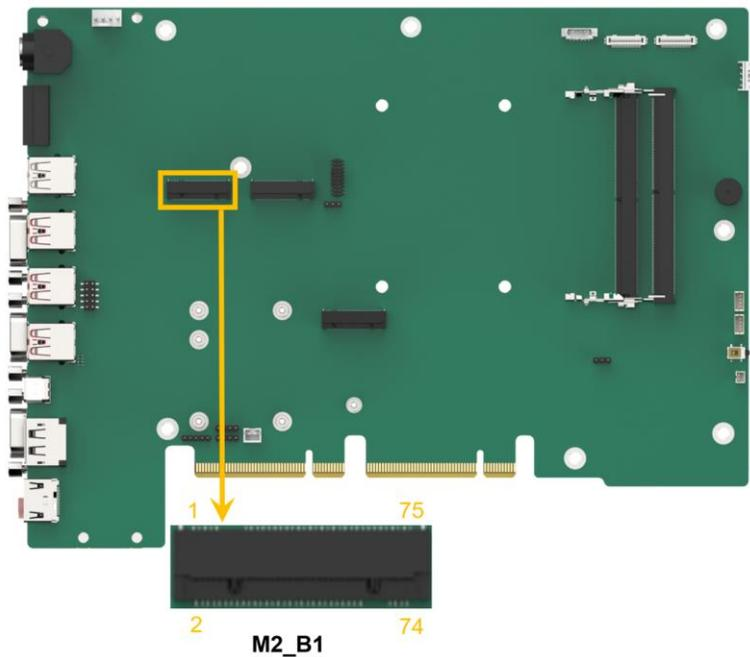

Figure 4-18: M.2 B-Key Slot Location
- CN Location:** See **Figure 4-18**